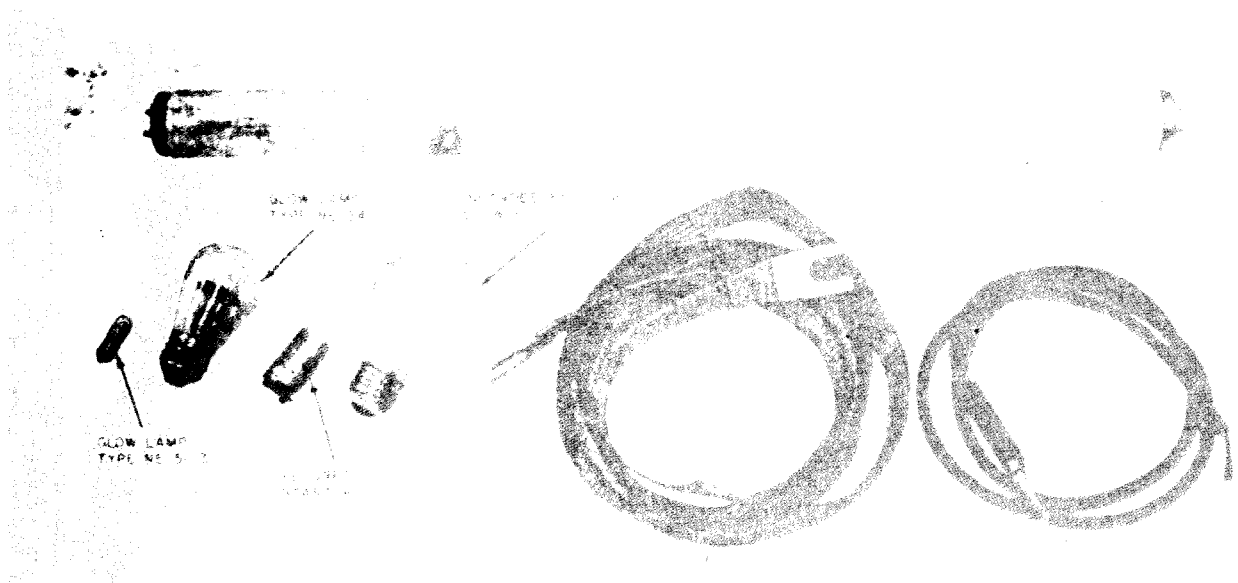

Figure 1-13. Shelter, Electrical Equipment S-371/MSC-31A, running spares.
(7) *Running spares.* The running spares are shown in figure 1-13.